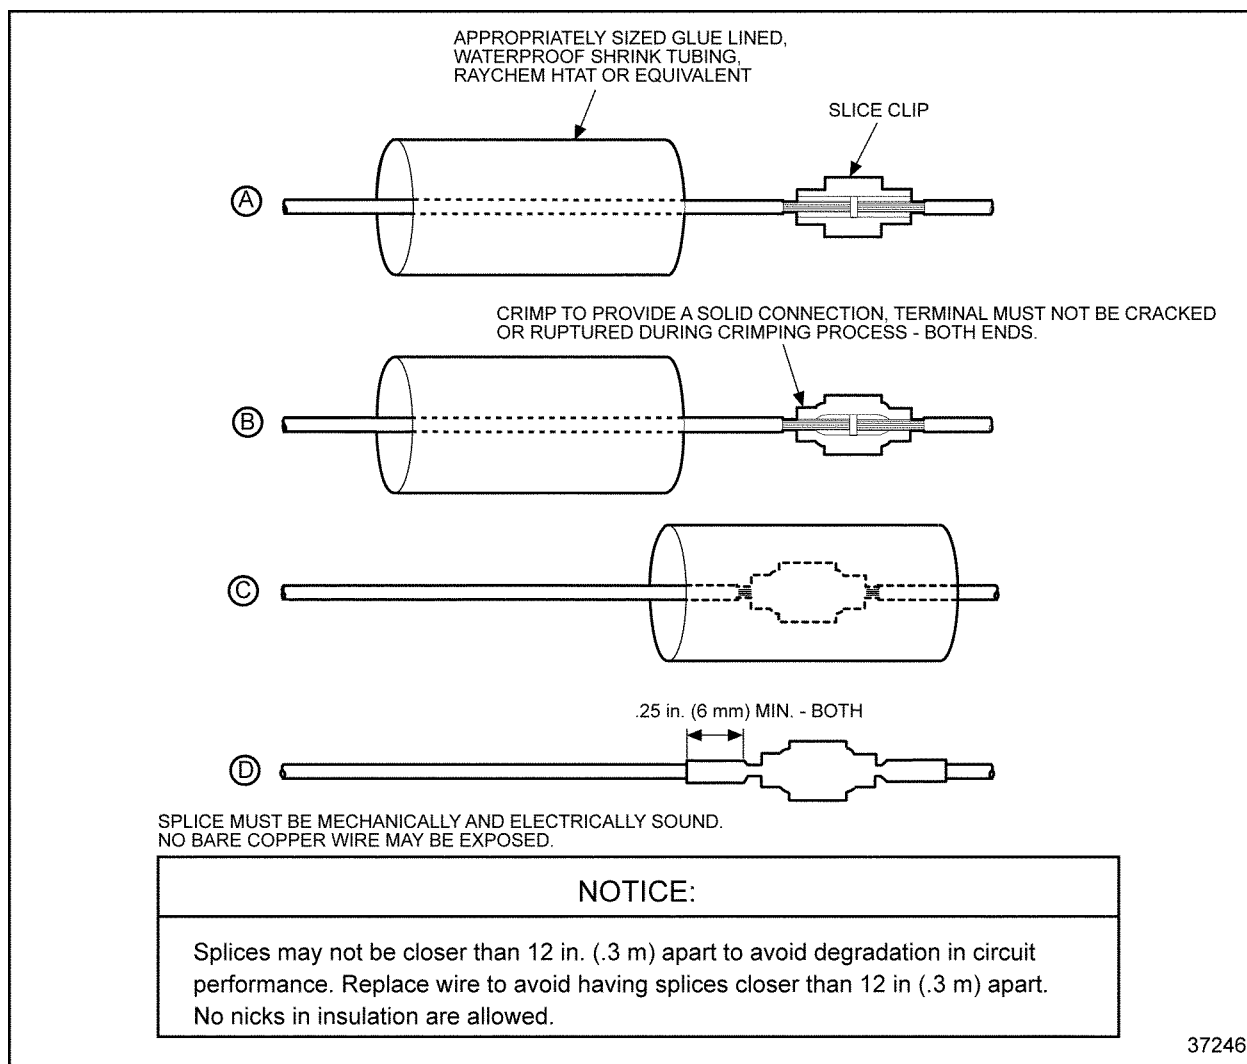

Figure 16-45 Splicing Straight Leads - Alternate Method 2
3. Slide a sleeve of glue lined, shrink tubing (Raychem HTAT or equivalent) long enough to cover the splice clip on the wire and overlap the wire insulation, about ¼ in. (6 mm) on both sides (see Figure 16-45, A).
4. Insert one wire into splice clip until it butts against the splice clip. Stop and crimp (see Figure 16-45, B).
5. Insert the remaining wires into the splice clip one at a time until each butts against the splice clip; stop and crimp (see Figure 16-45, B).
7. Slide the shrink tubing over the crimped splice clip (see Figure 16-45, C).
8. Shrink tubing with a heat gun to seal the splice (see Figure 16-45, D).